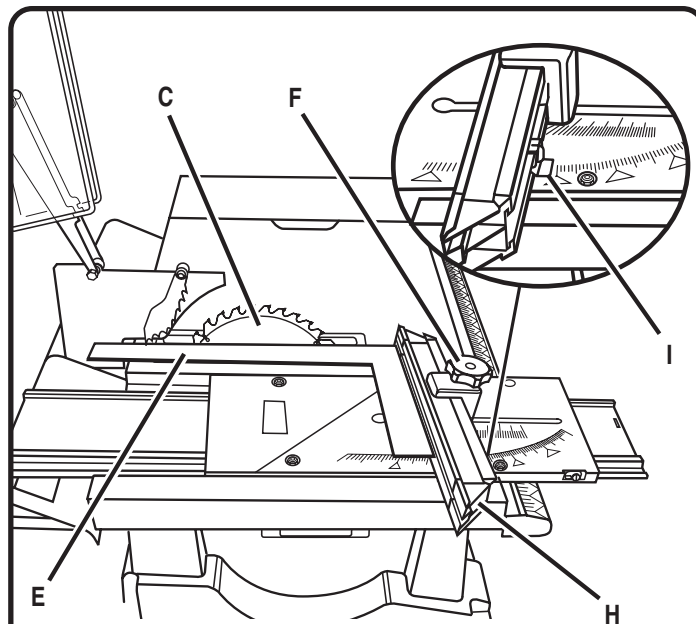

Fig. 43
See Figure 43.
- Set the miter fence (H) at 0° as shown in figure 43. Miter indicator (I) should be set precisely on 0° and secured in place with adjusting clamp (F).
- Place a framing square (E) firmly against the miter fence (H) with the other side against the blade (C).